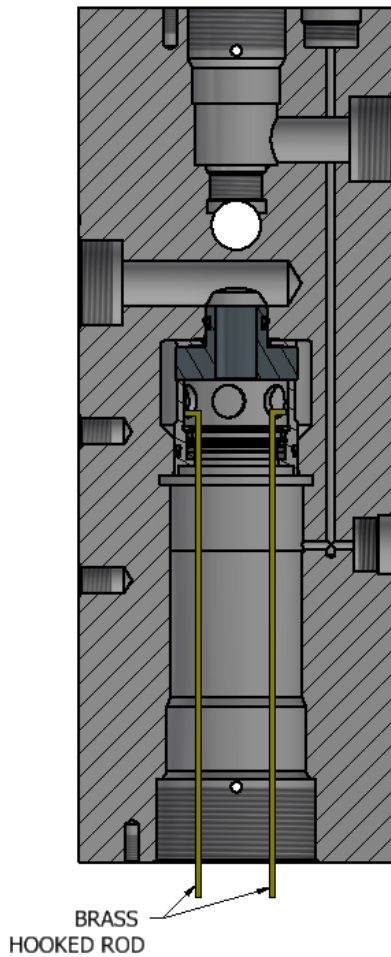

Figure 9 – Seat Retainer Removal
- 12.7 Position two brass hooked rods into the cross holes in the seat retainer and use pliers to remove, being careful not to scratch the cup seal. See Figure 9. – *Brass hooked rods*